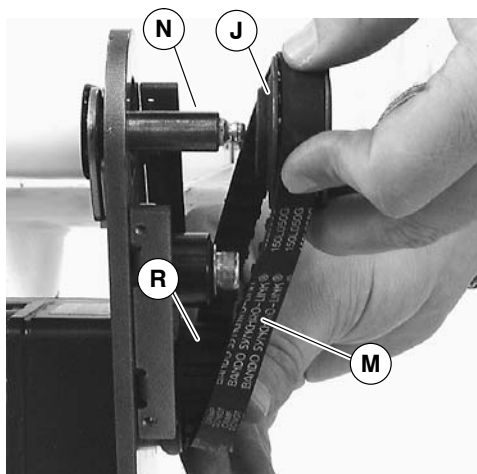

Figure 10
- Install key (N of Figure 10).